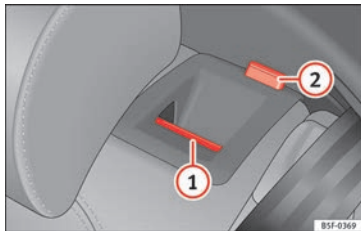

Fig. 151 On the rear seat backrest: release catch (1); red mark (2).
- Push the unlock button »» Fig. 151 (1) forwards and at the same time lift the backrest.
- The rear seat backrest is not engaged when the red marking of the button (2) is visible.
The rear seat backrest is not engaged when the red marking of the button »» Fig. 151 (2) is visible.